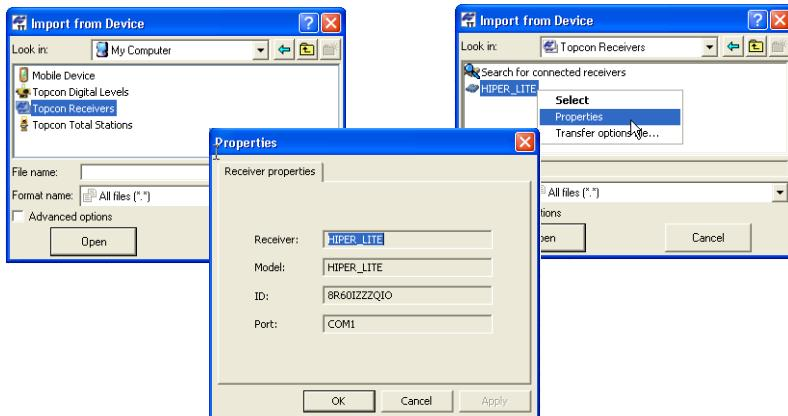

Figure 3-36. Connected Device(s) and Device Properties
3. Click **Topcon Receivers** in the **Import from Device** dialog box (Figure 3-36). Topcon Tools will search for Topcon receivers connected to the computer (COM or USB port). When finished, all receivers connected to the computer will display.
To view information about a receiver, right-click the receiver and click **Properties** (Figure 3-36 on page 3-37).
2. Double-click **Topcon Digital Levels** in the *Import from Device* dialog box (Figure 3-36).